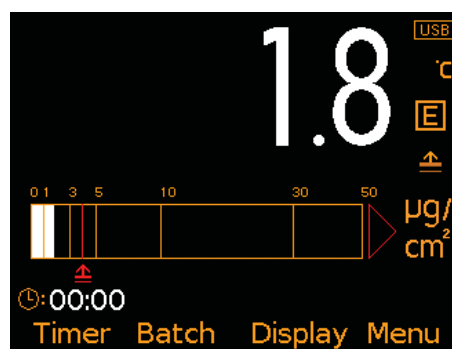

Fig. 4: Readings & Bar Graph
- **Bar Graph (Fig. 4);** An analogue representation of the current measurement value together with the highest (Hi), lowest (Lo) and average (\bar{x}) reading. The graph is updated automatically when each reading is taken.